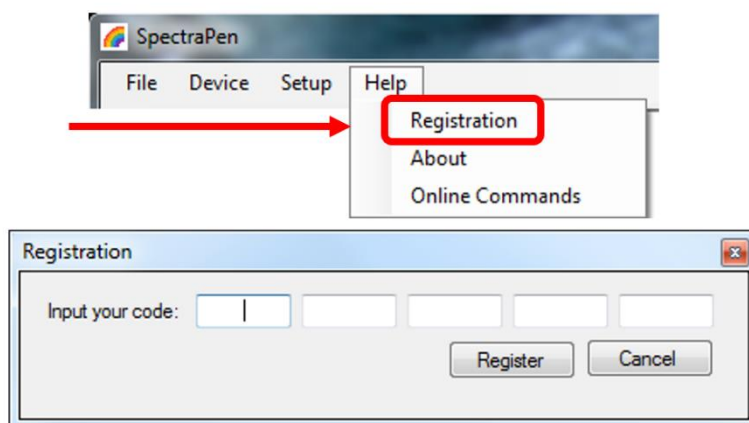

Fig. 24 Software registration.
2. To activate all software features register the software as follows (Fig. 24).